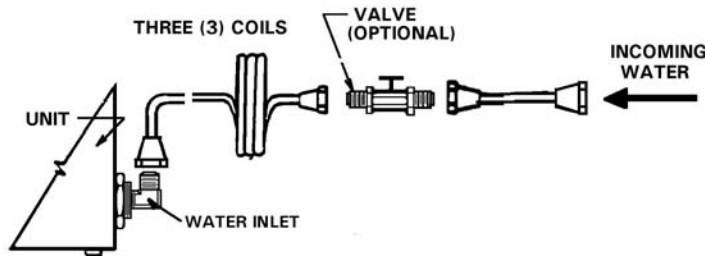

Fig. 1 (Plumbing Connection Diagram)
2. Form 3 coils of 1/4" OD copper tubing or high pressure flexible hose (not supplied) and connect to the cold water line. The coils allow the machine to be moved easily for cleaning and servicing. Flush the incoming water in the line. (See Diagram, Fig. 1)